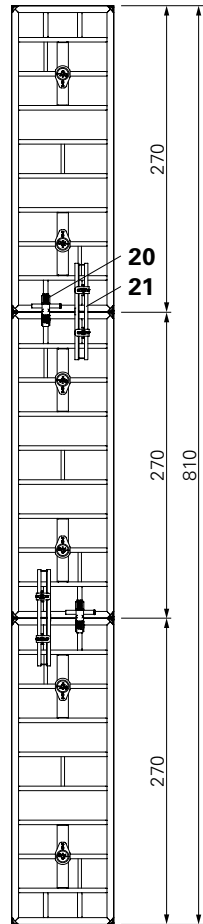
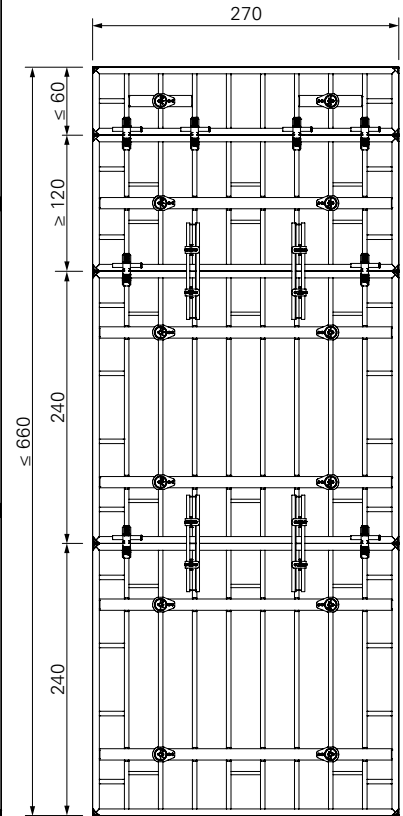

Fig. B11.03a
Fig. B11.03c
- H = 8.10 m (Fig. B11.03a + B11.03b)
- On panel joint 270 – 270, install Alignment Coupler BFD (20) and Compensation Waler MAR 85 (21).
- On panel joint 270 – 60, install Alignment Coupler BFD (20).
- On panel joints 240 – 240 and 240 – 120, install Alignment Couplers BFD (20) and Compensation Walers MAR 85 (21),
- On panel joint 120 – 60, install Alignment Coupler BFD (20). (Fig. B11.03c)